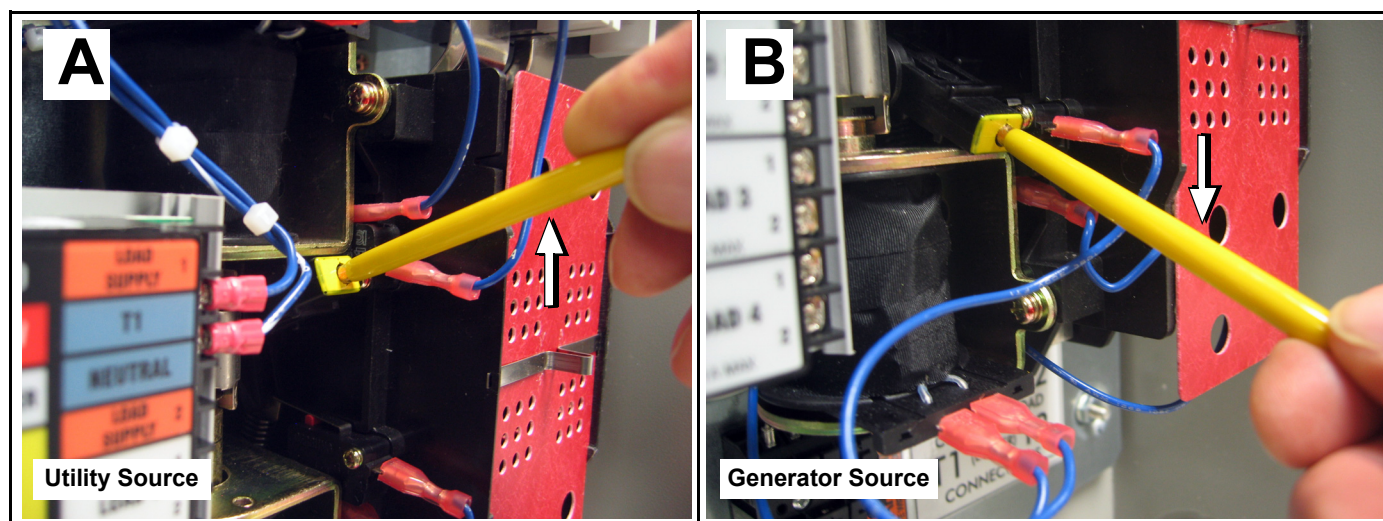

Figure 6-3. Manually Actuate Transfer Switch (RTSB Shown)
- CUSTOMER LOAD (T1 and T2) is connected to UTILITY SOURCE (N1 and N2). See A of Figure 6-3.
- CUSTOMER LOAD (T1 and T2) is connected to GENERATOR SOURCE (E1 and E2). See B of Figure 6-3.
5. Move the handle DOWN to connect CUSTOMER LOAD (T1 and T2) to GENERATOR SOURCE (E1 and E2). See B of Figure 6-3.